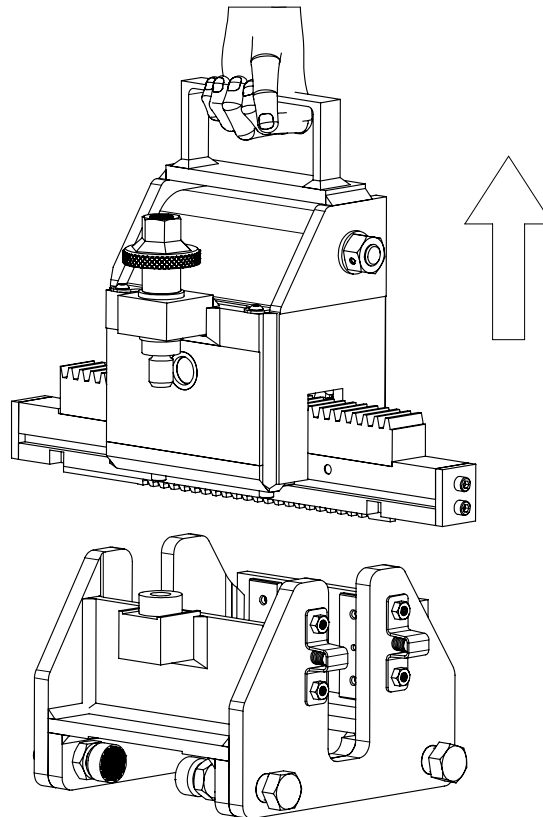

Figure 13: Lift gearbox from base assembly
- b. Lift the gearbox straight up from the base assembly (**Figure 13**).